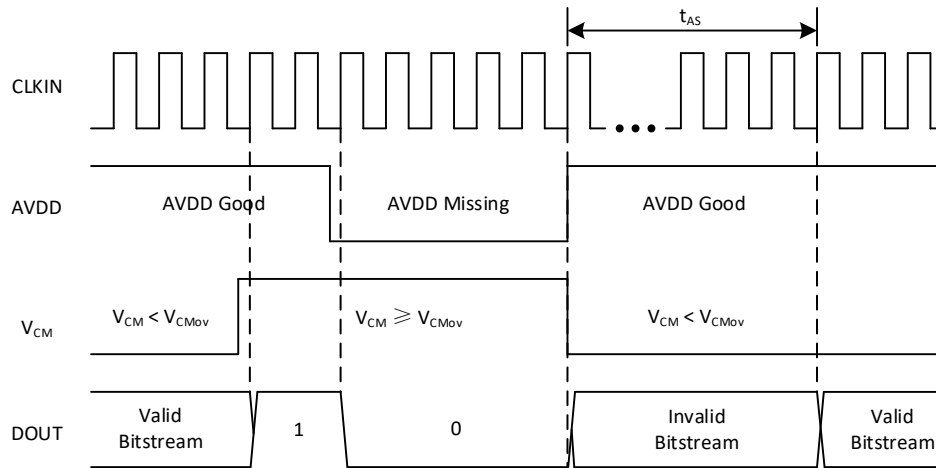

Figure 8.2 Fail-safe output
- When the undervoltage of AVDD is detected (AVDD < AVDD_{UV}), DOUT pin output a bitstream of all logic zeros, as shown in Figure 8.2.
- When the overvoltage of common-mode input voltage is detected (V_{CM} > V_{CMov}), DOUT pin output a bitstream of all logic ones, as shown in Figure 8.2.